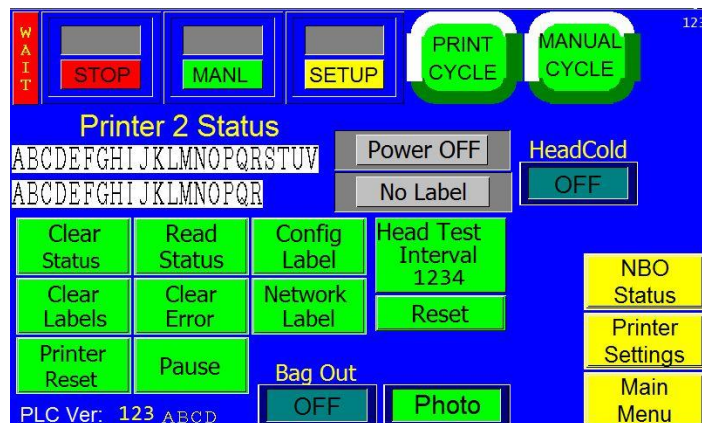

Figure 3- 13
**Ribbon Rewind Alarm ON/OFF:** If a hardware error occurs with the DC Motor Driver that would prevent the ribbon from being rewound, a feedback signal to the PLC generates a Warning Screen. Touching the screen will automatically reset the alarm. The Alarm ON/OFF button allows the alarm to be disabled. If the alarm is disabled, the Warning Screen (See Figure 3- 17) will be generated, but the Printer/Bagger will continue to run.